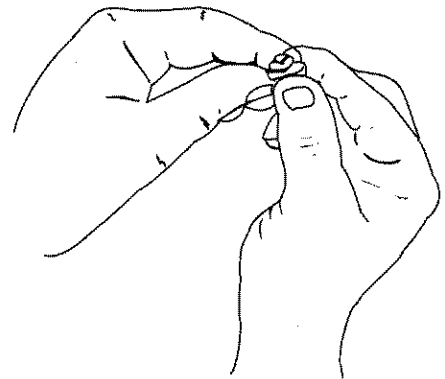

Fig. 28
6. Squeeze the filter to spread and remove excess oil (Fig. 28).